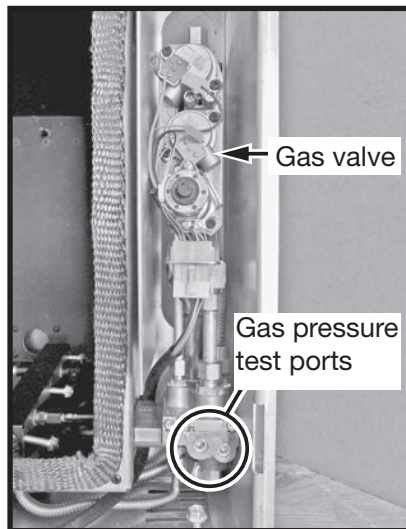

Figure 41: Gas valve location.
2. Locate the inlet and outlet test points on the valve which can be seen in (Figure 41). After locating test ports loosen the cap ends within the ports using a 3/16" Allan key.